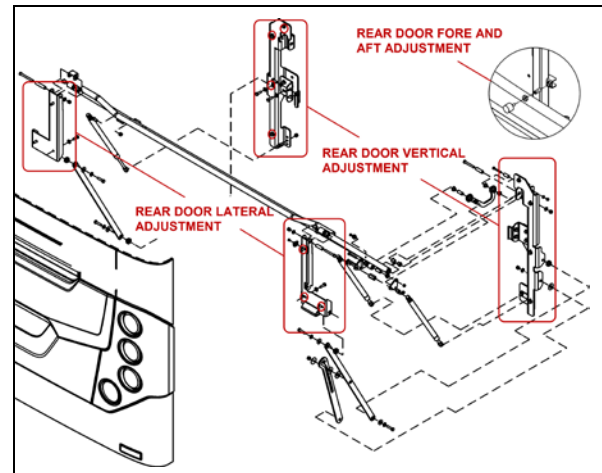

FIGURE 101: ENGINE COMPARTMENT DOOR
1. To adjust the door VERTICAL position, loosen the bolts (4 on each side) holding the door supporting arm and gas springs bracket to the vehicle structure (Figure 101).
2. To adjust the door LATERAL position, loosen the bolts (3 on each side) holding the door supporting arm and gas springs bracket to the door (Figure 101).
3. Adjust the door FORE & AFT position by screwing/unscrewing the rubber door stops on each side of the door opening (Figure 101).